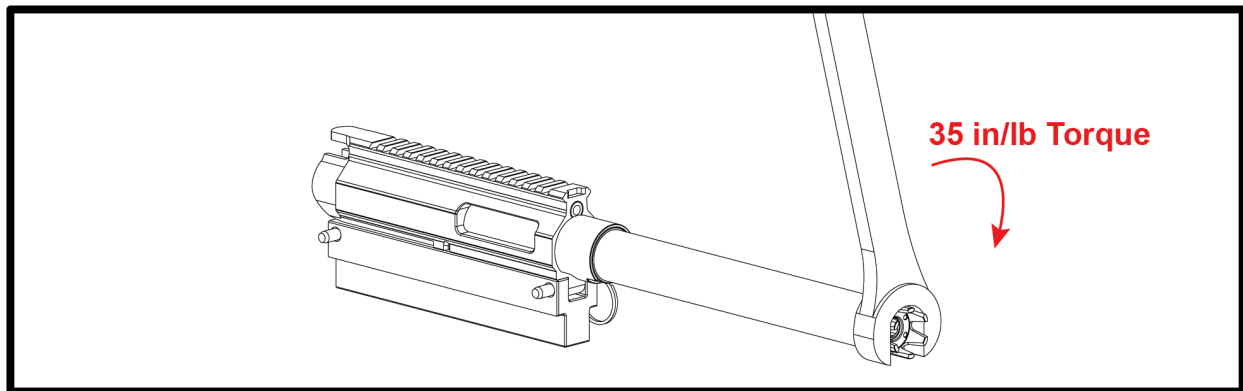

FIGURE 14.4 - Install the End Cap
Step 4 — Install the End Cap (FIGURE 14.4)